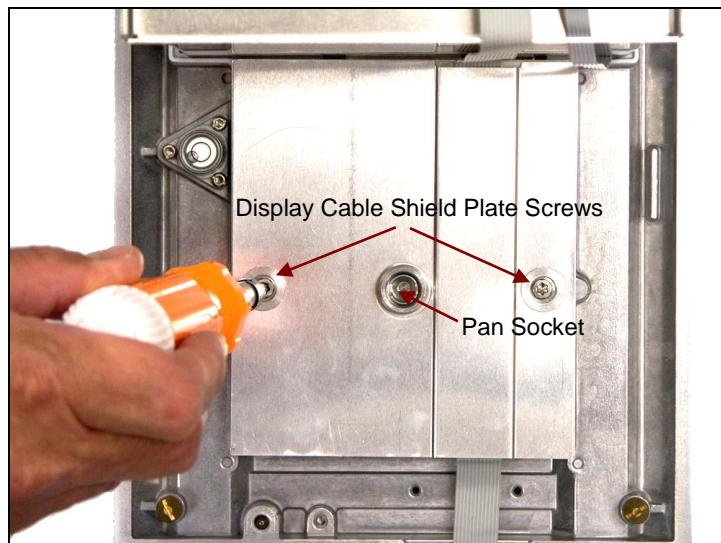

Figure 3-99. Inserting screws in Display Cable Shield Plate, after checking that Pan Socket is centered in hole in middle of Plate.
14. Before tightening the screws in the Display Cable Shield Plate, check that the Pan Socket is centered in the hole. Then tighten the screws. (See Figure 3-99.)